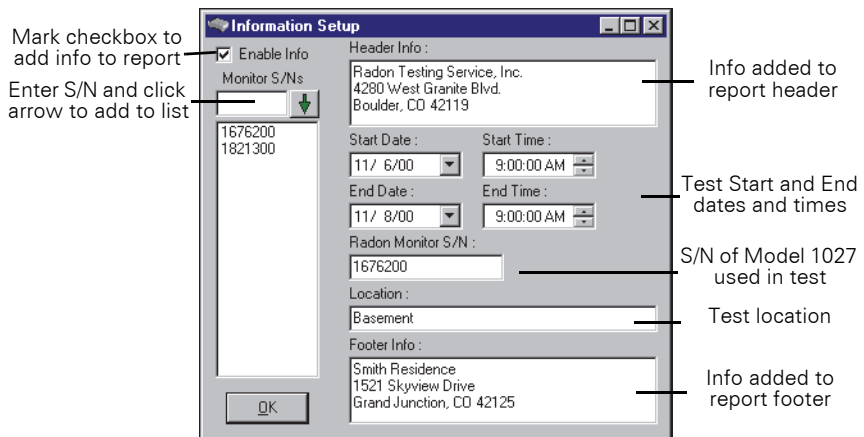

Figure 4-2. Information Setup Dialog Box
- 1 Launch Radon Monitor application, then select **Edit > Info** to open 'Information Setup' dialog box (Figure 4-2).